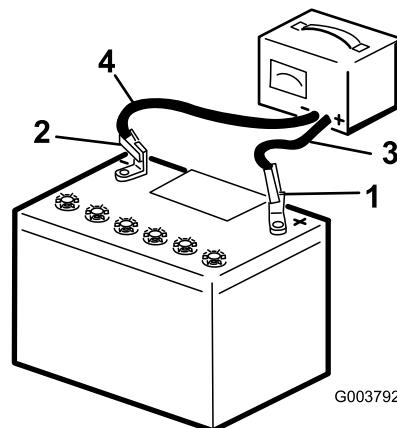

Figure 52
- 3. When the battery is fully charged, unplug the charger from the electrical outlet, then disconnect the charger leads from the battery posts (Figure 52).
2. Charge the battery for 4 to 8 hours at a rate of 3 to 4 A (Figure 52). Do not overcharge the battery.